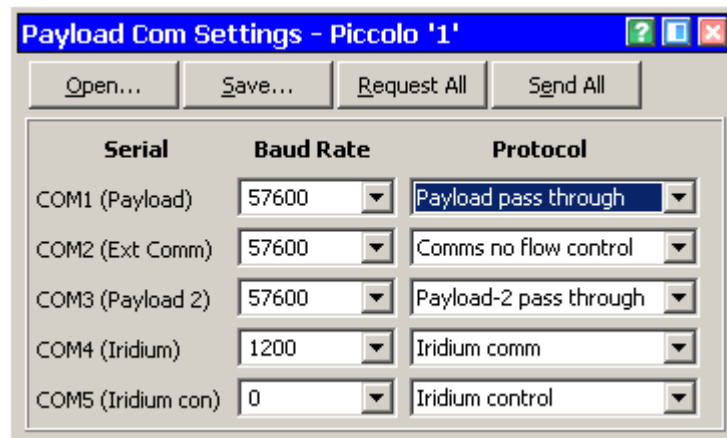

Figure 6 - Payload Com Settings Window
6. If you want to configure a Sony block camera connected to a Piccolo serial port, go to **Window** and open the **Payload Com Settings** window (**Figure 6**). For the com port connected to the Sony camera, select Baud Rate 9600 and Protocol Sony Camera.